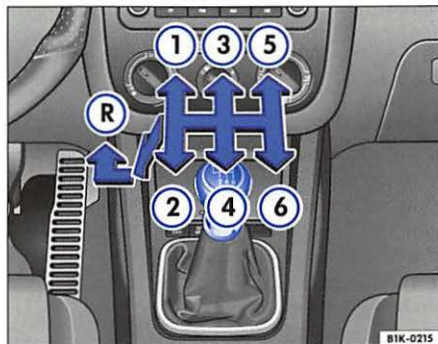

Fig. 81 Section of center console: manual transmission
- Press the gearshift lever down, move it to the left and then move it forward into Reverse ⇒ fig. 81 (R) shown on the gearshift lever.